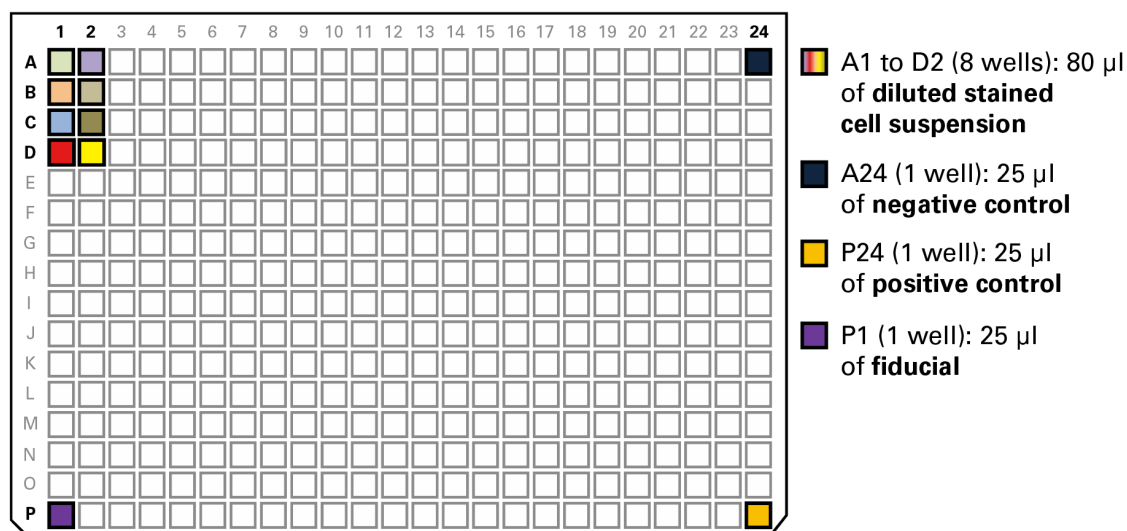

Figure 9. Setting up the MSND 384-Well Source Plate for dispensing cell samples and controls.
†The 1,000- μ l total volume of diluted stained cell suspension is sufficient for distributing 80 μ l of cell suspension in each of eight source wells (see Figure 9, below).
- Using a wide-bore 200- μ l pipette tip, slowly and carefully load 80 μ l of cell suspension into wells A1, A2, B1, B2, C1, C2, D1, and D2 of an MSND 384-Well Source Plate as indicated in Figure 9 (below).
- Add positive control, negative control, and ICELL8 Fiducial Mix (1X) to the MSND 384-Well Source Plate as indicated in the following steps and in Figure 9 (below):